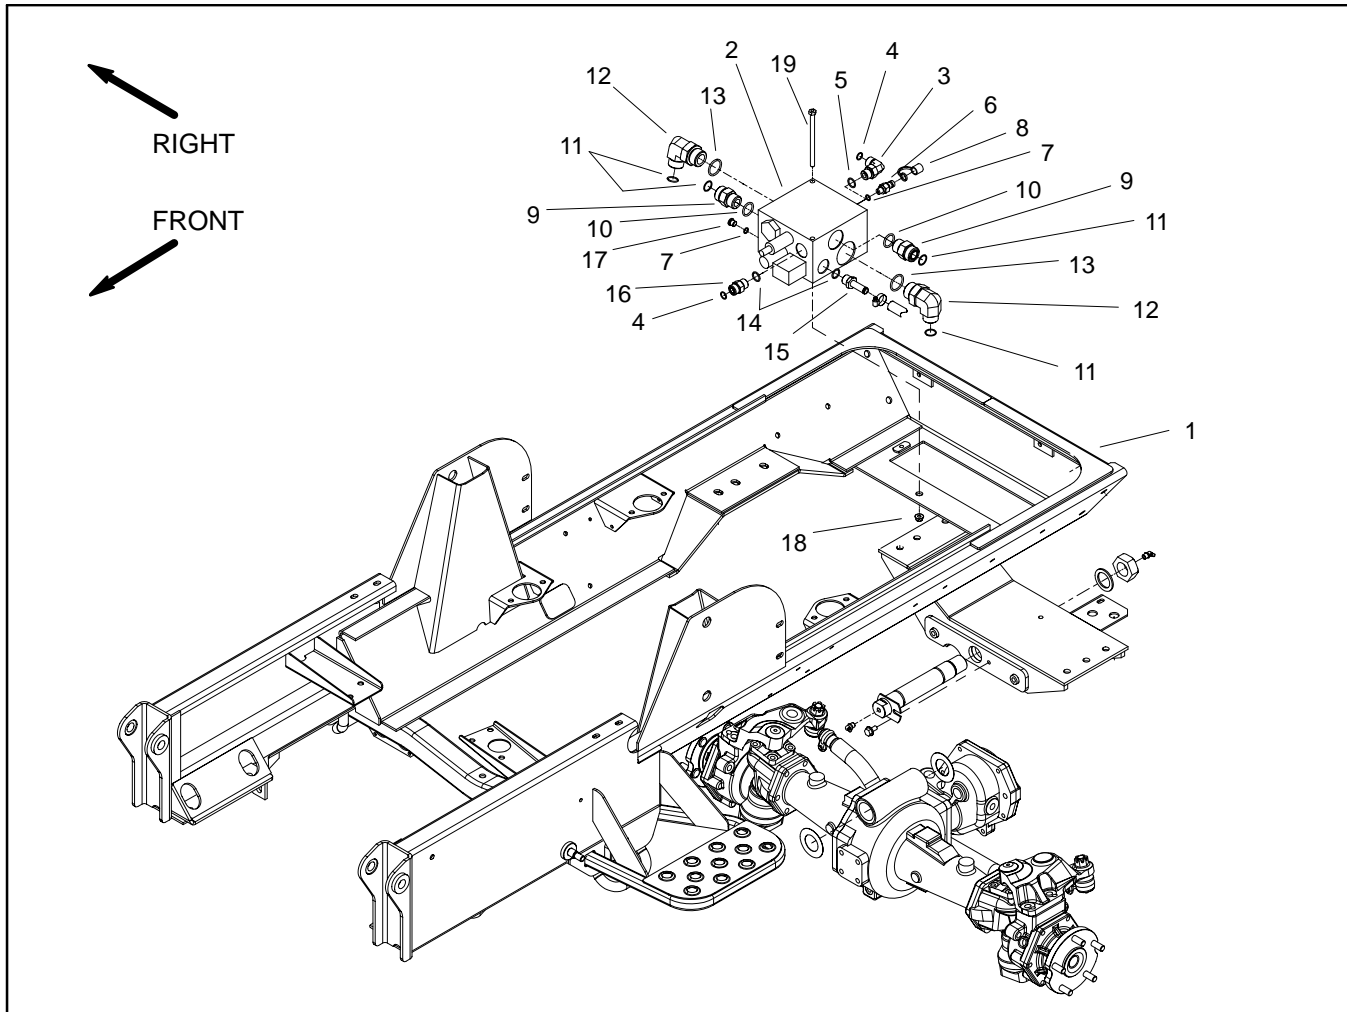

Figure 68
Removal (Fig. 68)
5. Remove hydraulic manifold from the frame using Figure 68 as guide.
Installation (Fig. 68)
2. Install hydraulic manifold to the frame using Figure 68 as guide.